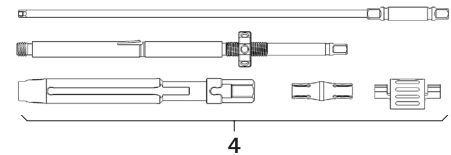

Fig. 9
- ▶ Assemble reduction lever 4, see Fig. 9.